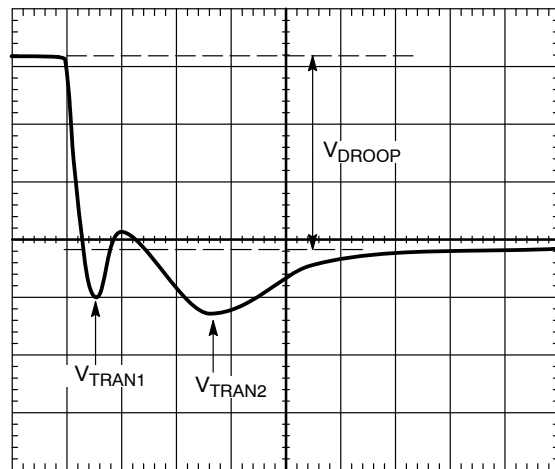

Figure 15. Transient Setting Waveform
- With the dynamic load still set at the maximum step size, expand the scope time scale to either 2 $\mu\text{s}/\text{div}$ or 5 $\mu\text{s}/\text{div}$. The waveform can have two overshoots and one minor undershoot (see Figure 15). Here, V_{DROOP} is the final desired value.